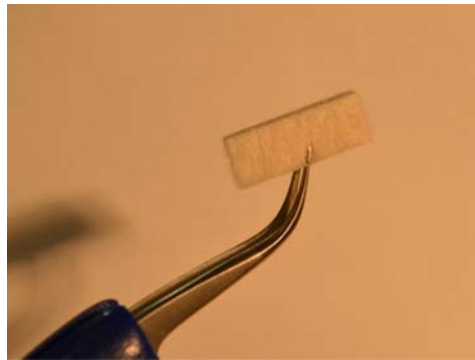

Figure 4-24: Tweezers for Pad Removal
- a. Carefully remove the old debris pad from the drain channel as shown in Figure 4-25. It is recommended to remove the debris collection pad with tweezers (Figure 4-24).